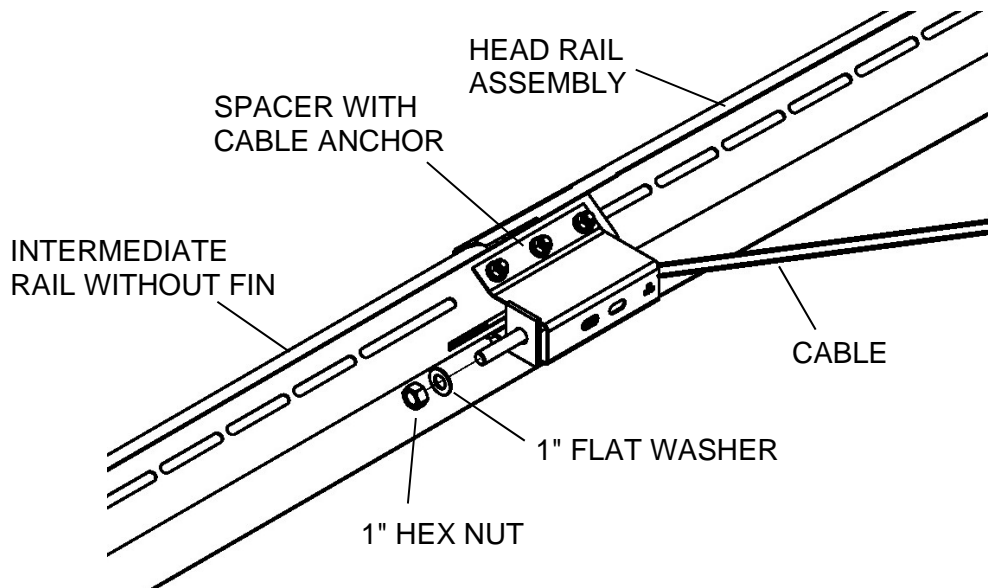

Figure 15 - Cable to Spacer Attachment
- 7.2 Insert the other end of the Cable through the Spacer with Cable Anchor. Secure the Cable using (1) 1" flat washer and (1) 1" hex nut. Restrain the Cable with Vise Grip Pliers at the end being tightened to avoid twisting the Cable. Make sure the nuts are tight and the Cable is taut (See Figure 15; Post 2 not shown for clarity).